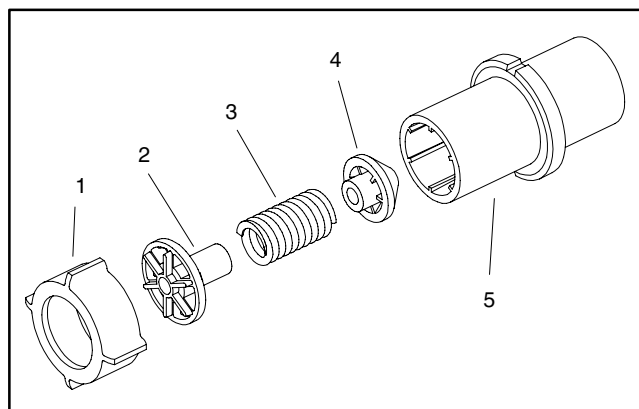

Figure 17
5. Disassemble relief valve using Figure 17 as a guide.
1. Replace relief valve components that are worn or damaged. Assemble relief valve using Figure 17 as a guide.